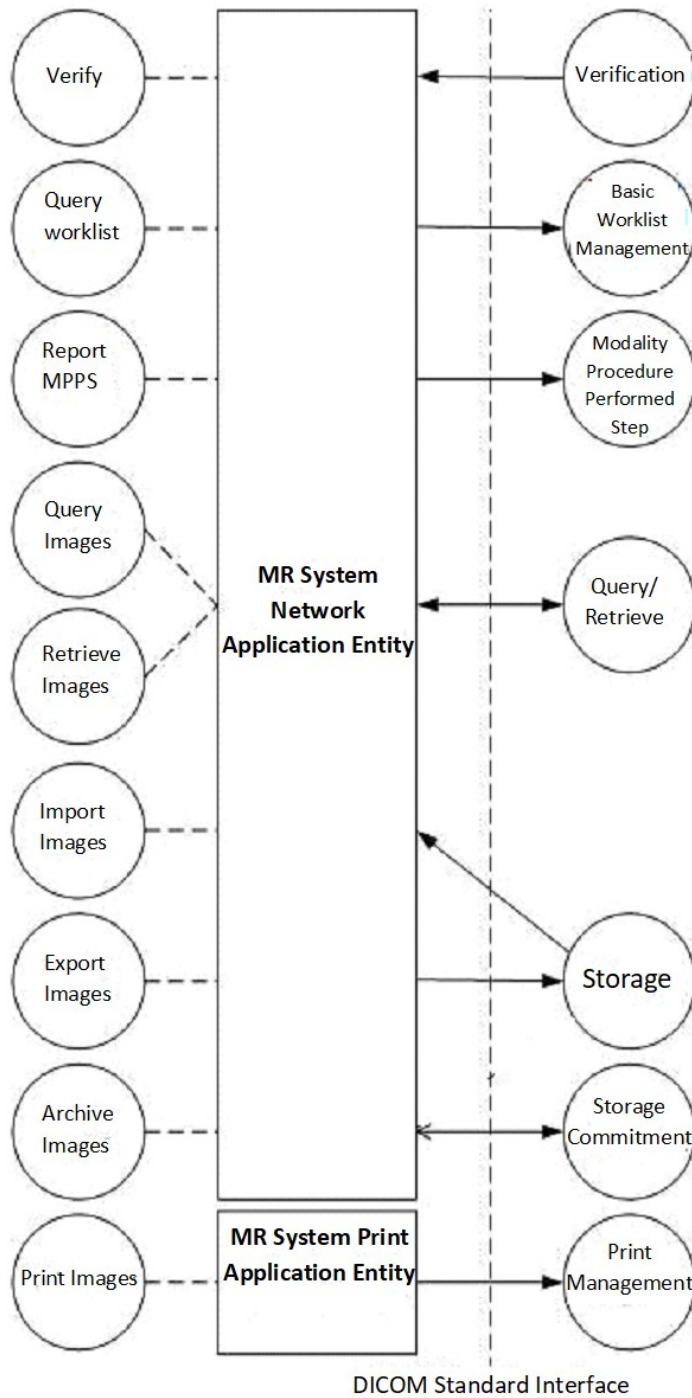

Figure 2: MR System AE Data Flow Diagram
The MR System incorporates two networking Application Entities (AE). The related networking application data flow as a functional overview of the MR system is shown in Figure 2: